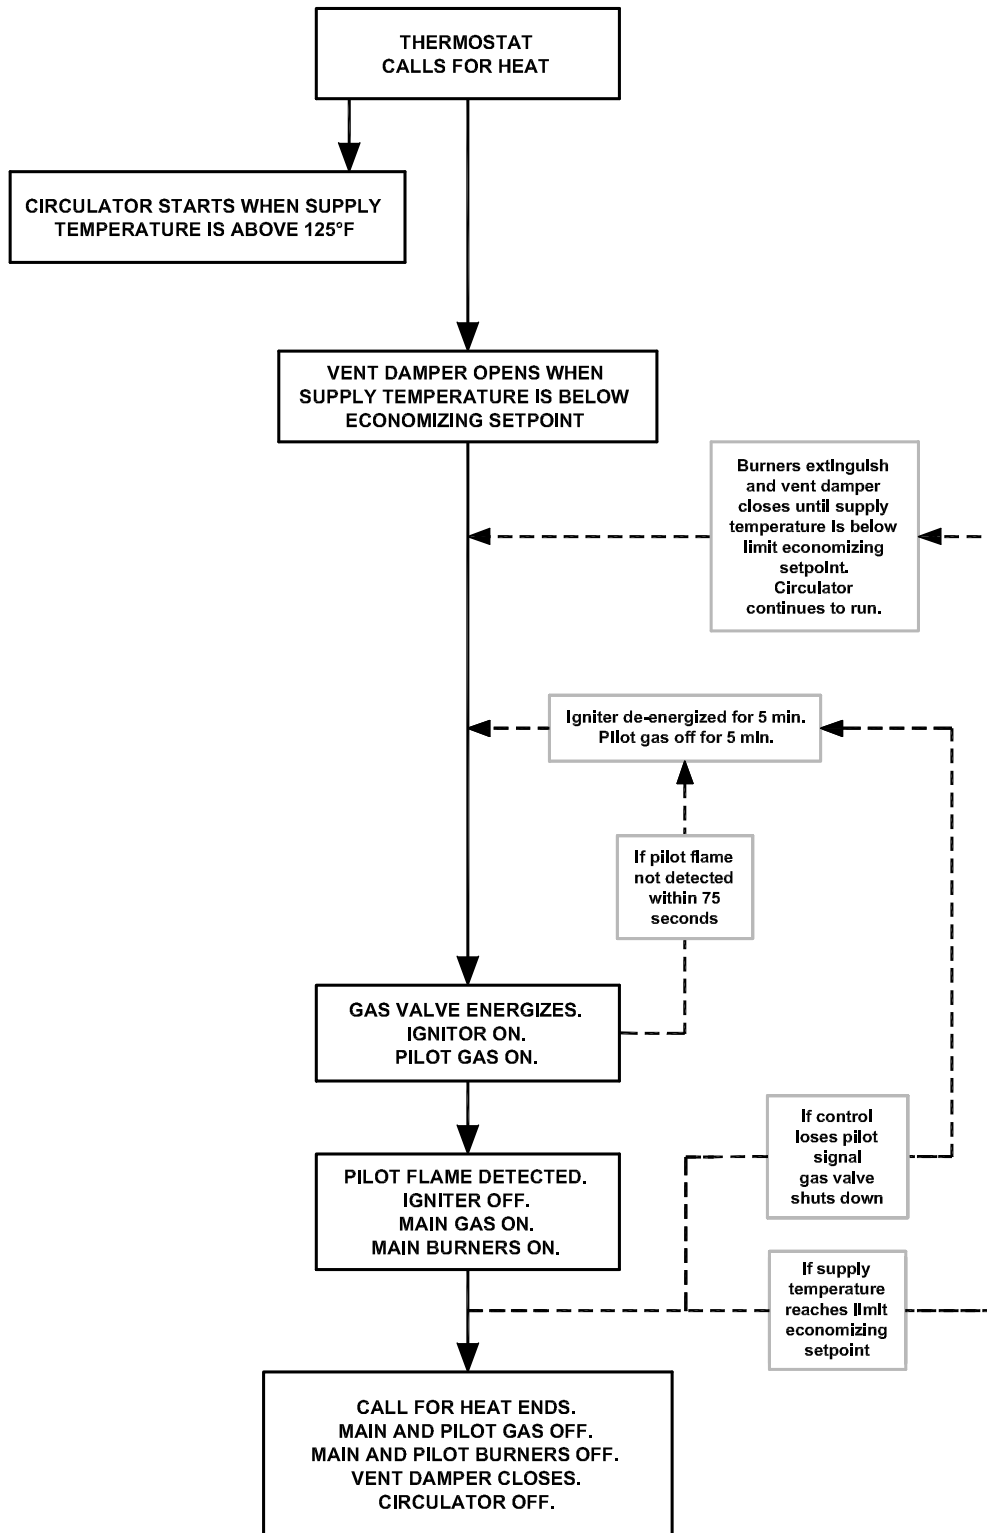

Figure 6.6: Intermittent Ignition System Operating Sequence
13. Use the sequence description in Figure 6.6 in Section 6 (Electrical) to follow light-off and shutdown sequences and to assist in diagnosing problems. If the boiler does not function properly, consult Section 8, Troubleshooting.